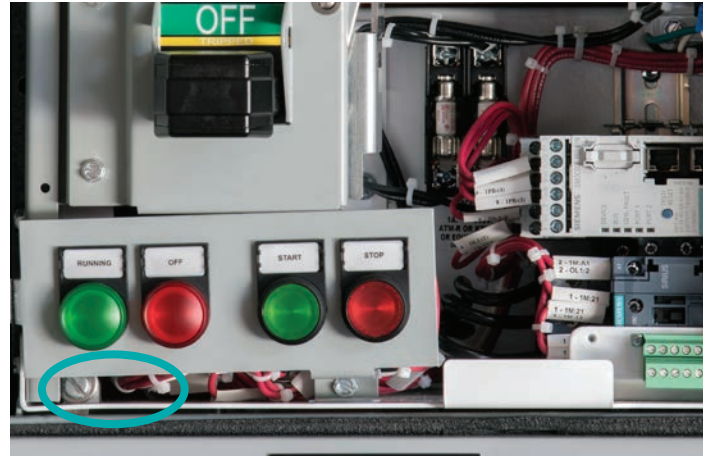

Figure 8: Lower locking latch
3. Unscrew latch located at the bottom of the unit. Rotate the latch until it disengages from the separator angle (refer to Figure 8).
- 7d. Engage locking latch at lower left of the unit to the separator angle and tighten it using a flat-head screwdriver (refer to Figure 8)